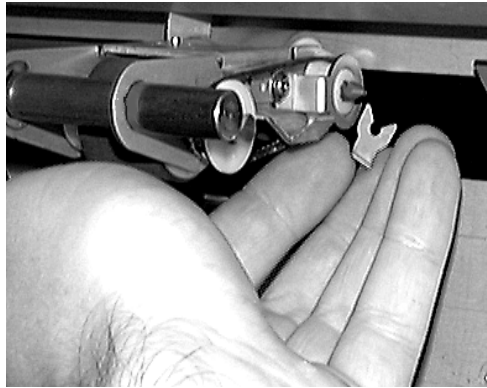

Figure 5-36 Installing Upper Roller Clip
Step 15 Snap the blue plastic clip into place. It fits over a groove on the end of the shaft to secure the upper roller assembly. If you don't see this groove, the assembly may not be completely seated all the way onto the shaft. See Figure 5-36.